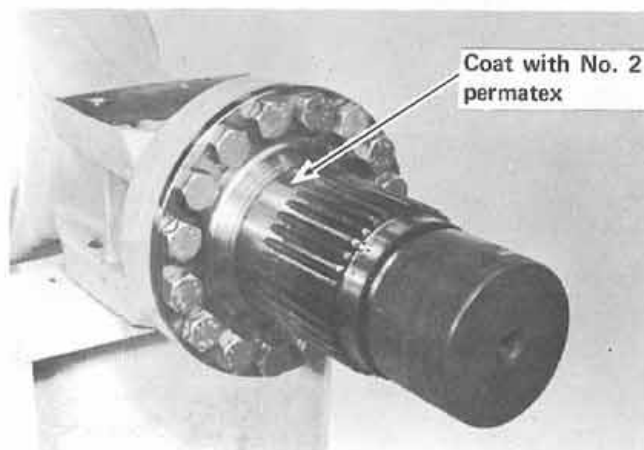

Figure 30
**Step 56** Mount the special puller cap on the stub axle thread. This will protect the lip of the oil seal from being damaged on the axle threads when mounting the hub. (See figure 30 pp CC-19).